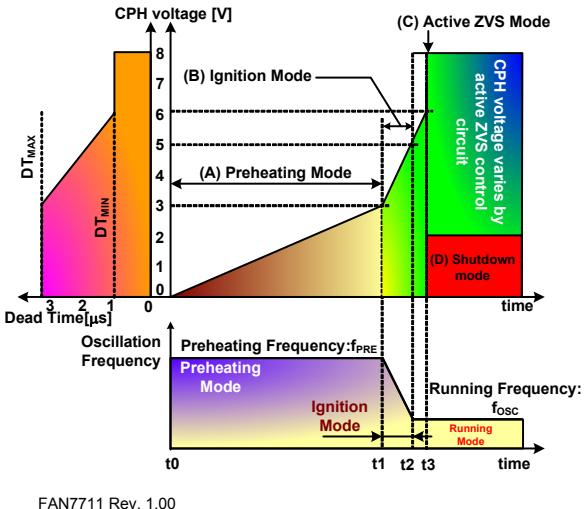

Figure 20. Operation Modes
FAN7711 has four operation modes: (A) preheating mode, (B) ignition mode, (C) active ZVS mode, and (D) shutdown mode, depicted in Figure 20. The modes are automatically selected by the voltage of CPH capacitor, shown in Figure 20. In modes (A) and (B), the CPH acts as a timer to determine the preheating and ignition times. After the preheating and ignition modes, the role of the CPH is changed to stabilize the active ZVS control circuit. In this mode, the dead time of the inverter is selected by the voltage of CPH. Only when FAN7711 is in active ZVS mode is it possible to shut off the whole system using CPH pin. Pulling the CPH pin below 2V in active ZVS mode, causes the FAN7711 to enter shutdown mode. In shutdown mode, all active operation is stopped, except UVLO and some bias circuitry. The shutdown mode is triggered by the external CPH control or the active ZVS circuit. The active ZVS circuit automatically detects lamp removal (open-lamp condition) and decreases CPH voltage below 2V to protect the inverter switches from damage.
When the CPH voltage exceeds 3V, the internal current source to charge CPH is increased about six times larger than I_{PH} , noted as I_{IG} causing rapid increase in CPH voltage. The internal oscillator decreases the oscillation frequency from f_{PRE} to f_{OSC} as CPH voltage increases. As depicted in Figure 20, lowering the frequency increases the voltage across the lamp. Finally, the lamp ignites. Ignition mode is defined when CPH voltage lies between 3V and 5V. Once CPH voltage reaches 5V, the FAN7711 does not return to ignition mode, even if the CPH voltage is in that range, until the FAN7711 restarts from below $V_{DDTH(ST-)}$. Since the ignition mode continues when CPH is from 3V to 5V, the ignition time is given by: